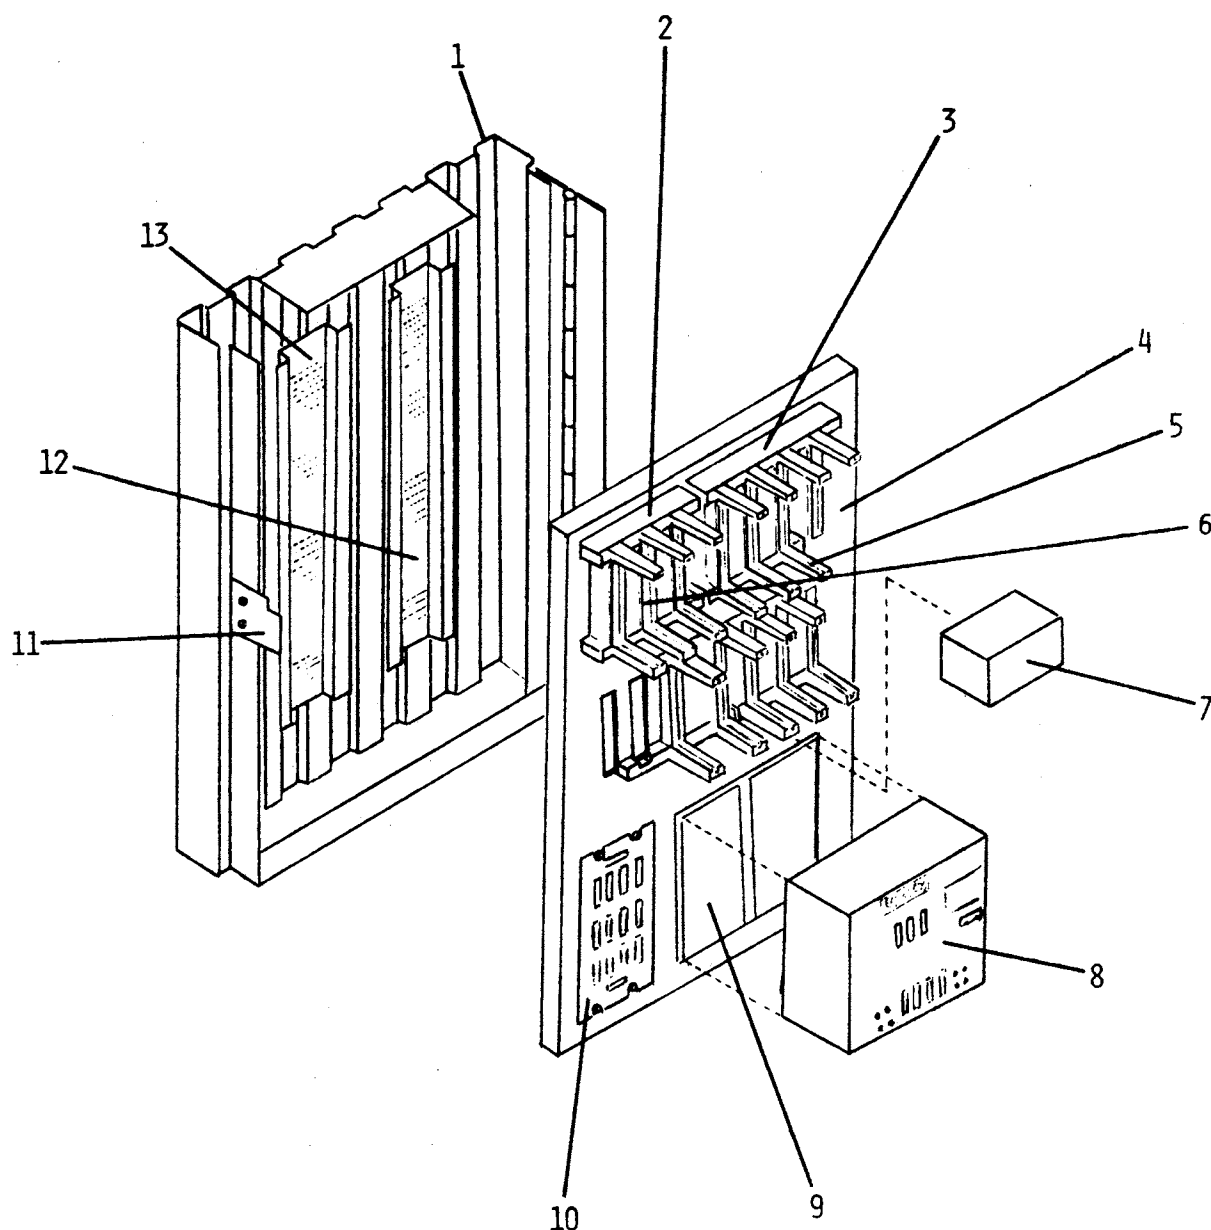

Figure 5 - TIE-919 Parts Identification Numbers
- (a) Using Figure 5, locate the part item identification number.
6.02 Individual parts for the TIE-919 Expansion Unit (EU).